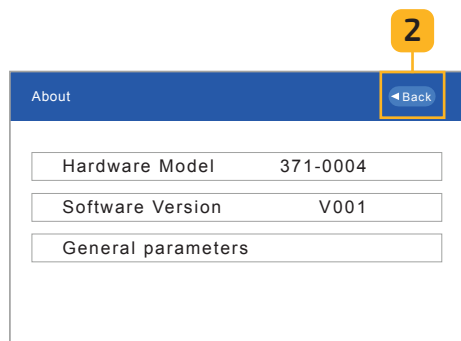

Fig. 6.30 • About screen
2. Click the **Back** button to return to the Homepage UI touchscreen (Fig. 6.30).